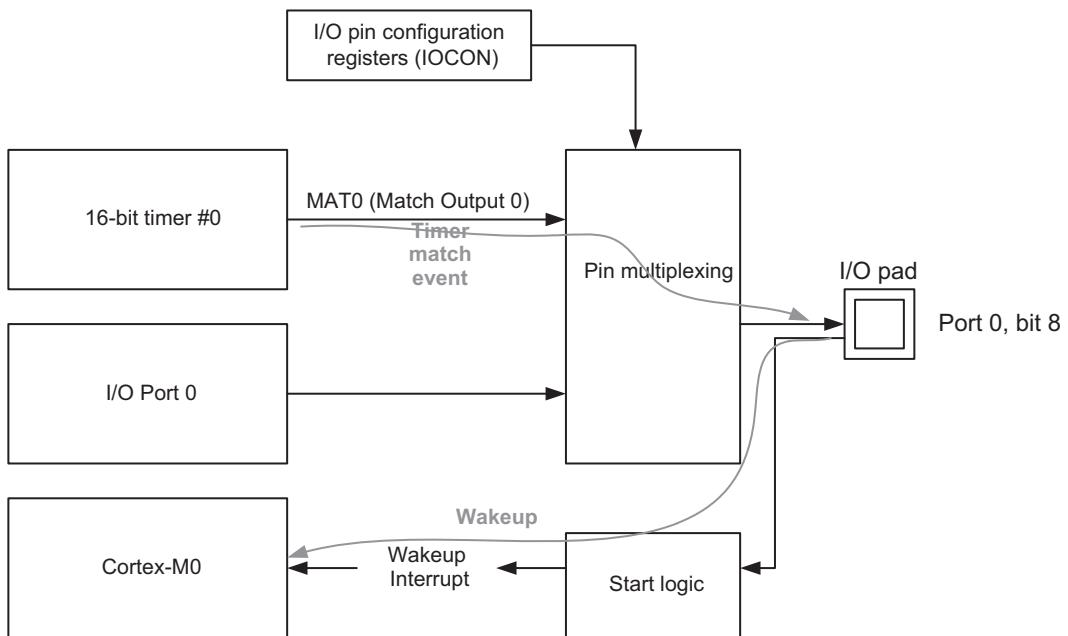

Figure 17.7:
- Start logic on the NXP LPC111x is triggered by I/O port activities. So we use the timer match event output to drive an I/O port output and then use this signal level to trigger the wakeup as shown in Figure 17.7.